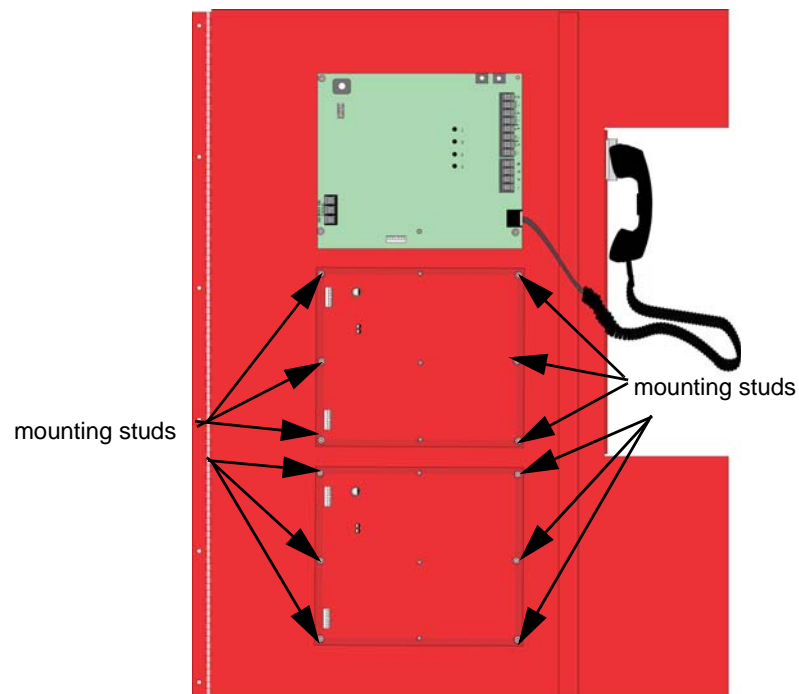

Figure 3.7 Mounting Locations for the TR-24Z-EXT
5. To secure the board, use the nuts removed from the blank plate. See Figure 3.7.